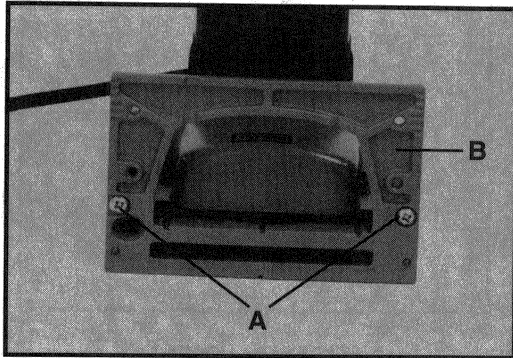

Fig. 1
1. Use a phillips screwdriver to remove the two screws (A) Fig. 1, from the blade guard of your plate joiner.